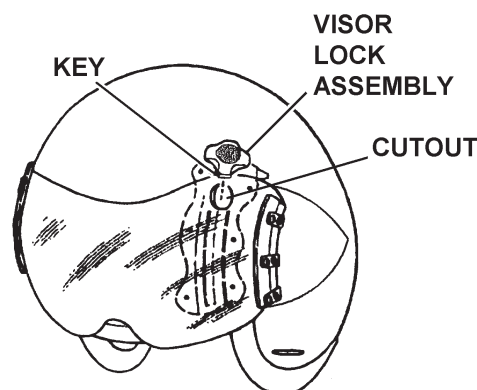

Figure 3-20. Installing Visor Lock Assembly
- c. Referring to Figure 3-20, insert the visor lock assembly (with the key turned lengthwise) through the visor cutout and into the rounded opening at the top of the visor locking guide.